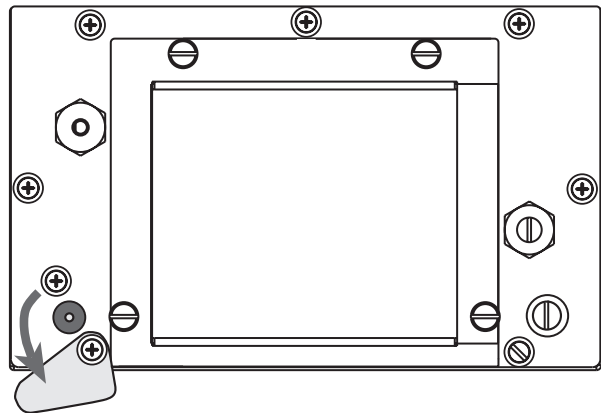

Figure 2-5. AC Adapter Port Cover
2. Loosen the bottom screw, then rotate the port cover to expose the AC adapter port (see Figure 2-5).